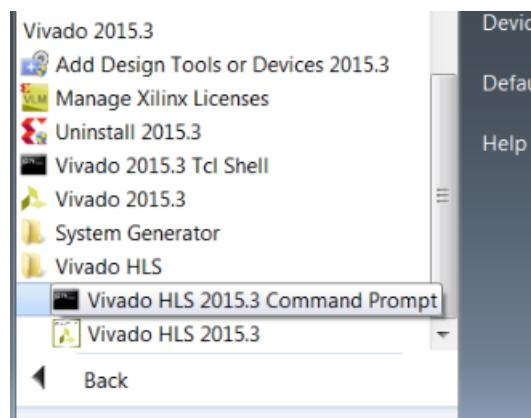

Figure 10-1: Vivado HLS Command Prompt
- On Windows use **Start > All Programs > Xilinx Design Tools > Vivado 2015.3 > Vivado HLS > Vivado HLS 2015.3 Command Prompt** (Figure 10-1).